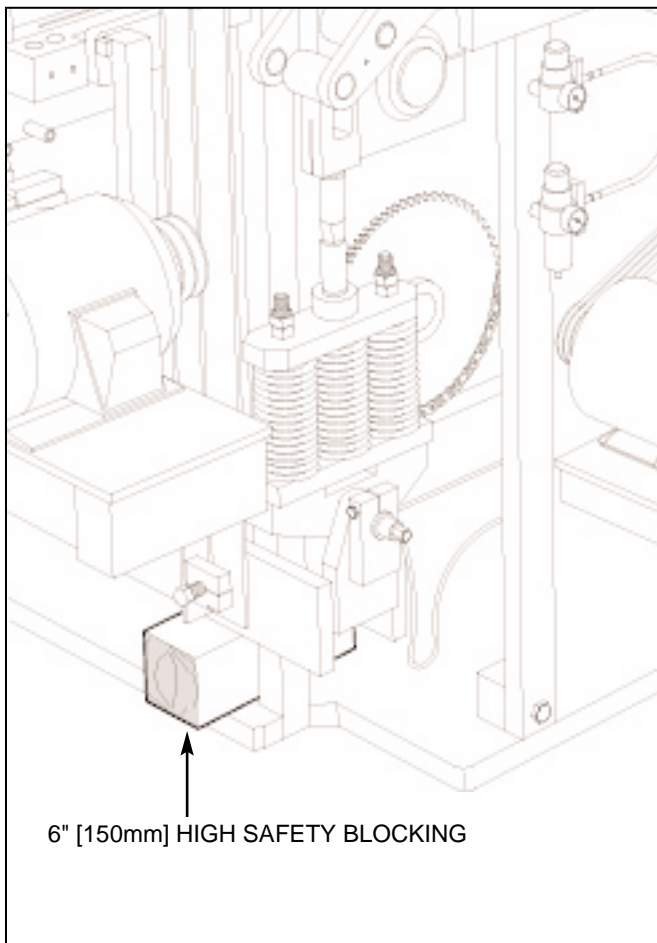

Figure 4.50 PLACING SAFETY BLOCKING.
- 4.4.9 Place safety blocking of **6" [150mm]** high under the pallet receiver frame (see figure 4.50).